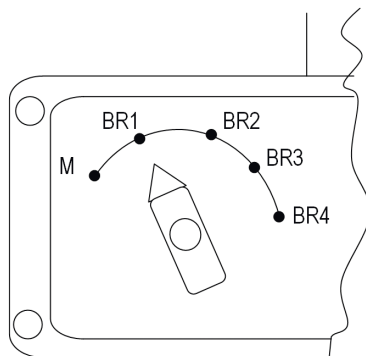

Fig. 2
1.8.1.1 Select the operating mode by the position of the operating mode selector (Fig. 2).